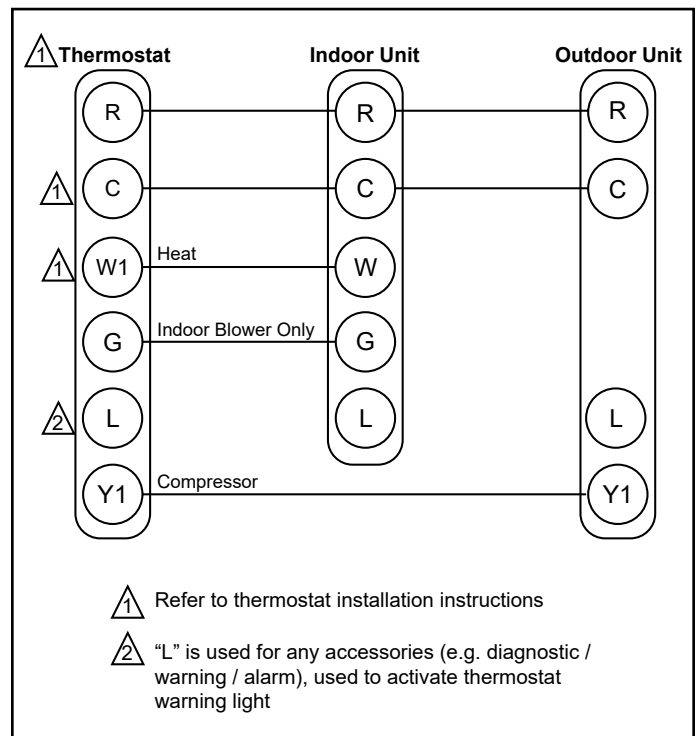

Figure 8. Thermostat Designations - Non-Communicating
5. Install low voltage wiring from outdoor to indoor unit and from thermostat to indoor unit (see Figure 8).